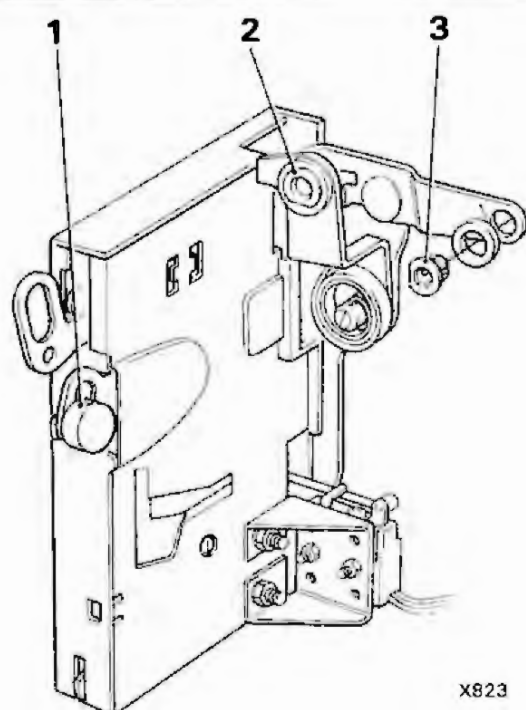

Fig. 1
- a Fit new Fastex bushes and a plastic rod connector to the latch (see fig. 1).